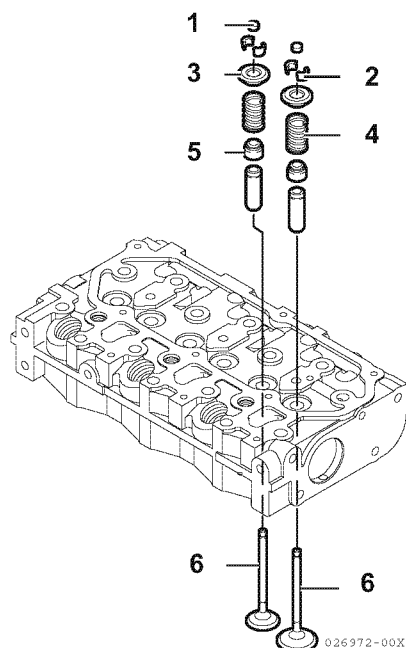

Figure 6-28
4. Install all the valves (**Figure 6-28, (6)**) in their proper location in the cylinder head.
5. Put the cylinder head on the work bench with the combustion side down to install the valve springs. Install the valve spring (**Figure 6-28, (4)**) and spring retainer (**Figure 6-28, (5)**).
7. Insert the valve keeper (**Figure 6-28, (2)**) and slowly release the tension in the valve spring. Install the valve cap (**Figure 6-28, (1)**). Repeat steps on all remaining valves.